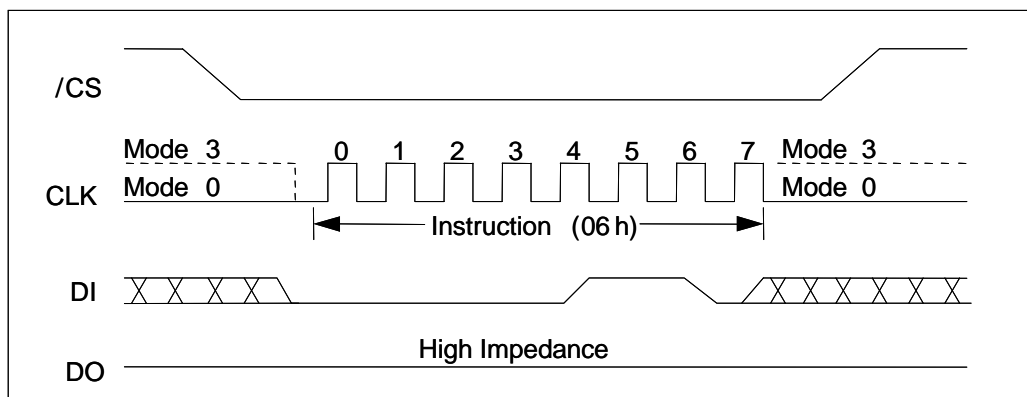

Figure 4. Write Enable Instruction Sequence Diagram
Instructions vary in length from a single byte to several bytes and may be followed by address bytes, data bytes, dummy bytes (don't care), and in some cases, a combination. Instructions are completed with the rising edge of edge /CS. Clock relative timing diagrams for each instruction are included in figures 4 through 29. All read instructions can be completed after any clocked bit. However, all instructions that Write, Program or Erase must complete on a byte (/CS driven high after a full 8-bit have been clocked) otherwise the instruction will be terminated. This feature further protects the device from inadvertent writes. Additionally, while the memory is being programmed or erased, or when the Status Register is being written, all instructions except for Read Register will be ignored until the program or erase cycle has completed.
The Write Enable instruction (Figure 4) sets the Write Enable Latch (WEL) bit in the Status Register to a 1. The WEL bit must be set prior to every Page Program, Sector Erase, Block Erase, Chip Erase and Write Status Register instruction. The Write Enable instruction is entered by driving /CS low, shifting the instruction code "06h" into Data Input (DI) pin on the rising edge of CLK, and then driving /CS high.